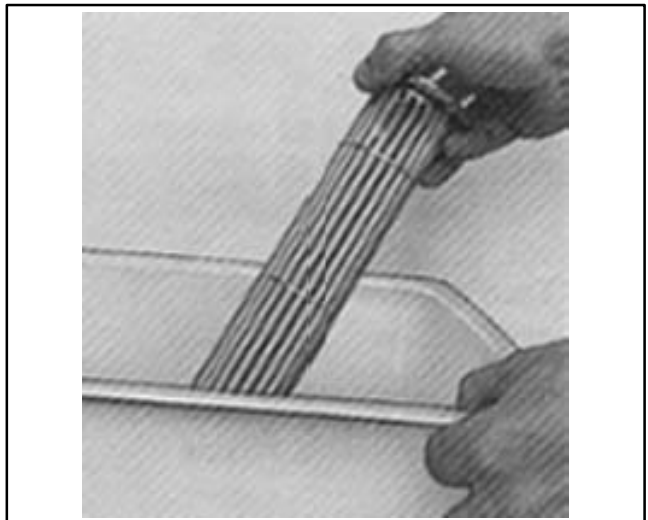

Figure 6-9 Rinse Heat Exchanger Tube
12. Rinse the heat exchanger tube in clean water. See Figure 6-9.